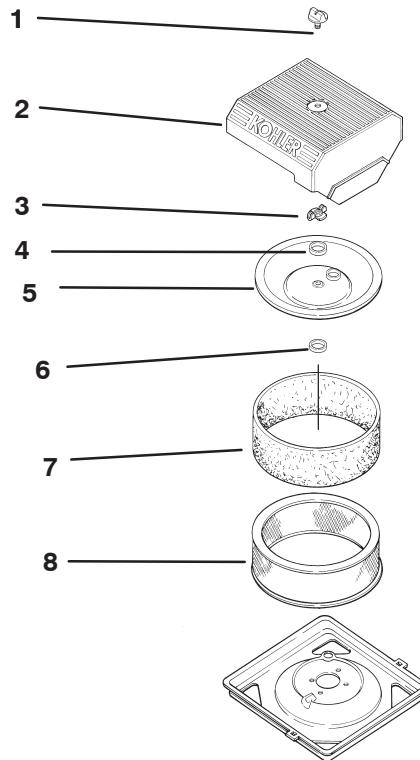

Figure 43
- Remove knob, O-ring and cover (Fig. 43).